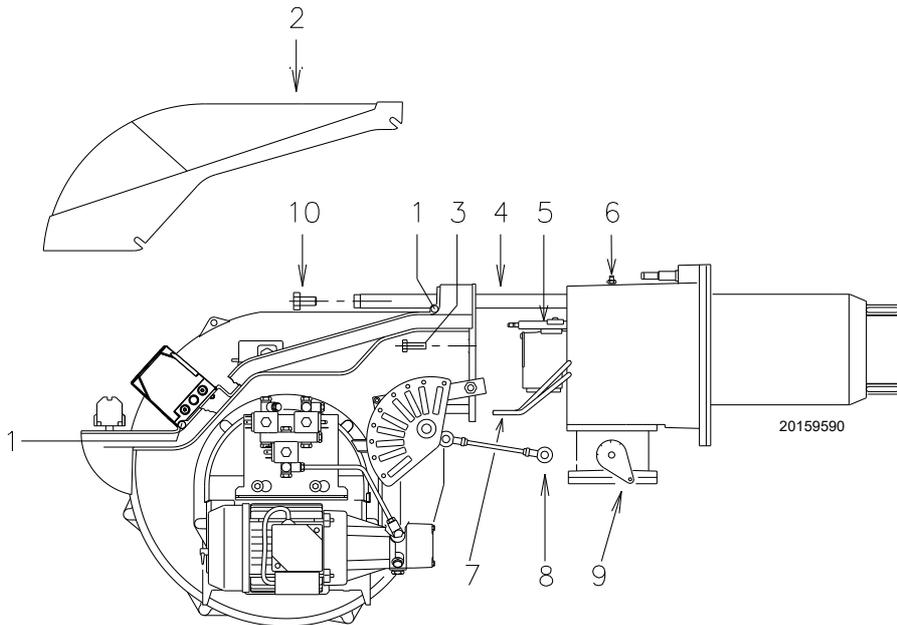

Fig. 47
- Loosen the screws 1) and remove the hood 2)(Fig. 47).
- Disconnect the light oil pipes 7)(Fig. 47).
- Remove the screws 3) and move the burner backwards by about 100 mm on the slide bars 4)(Fig. 47).
At this point it is possible to extract the inner part 5) after having removed the screw 6)(Fig. 47).